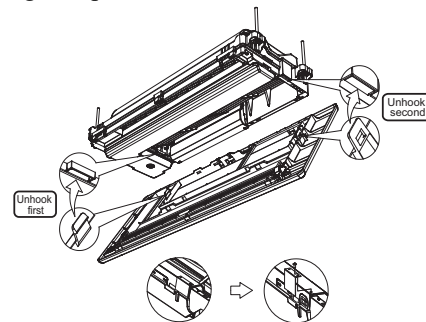

Fig. 14 —Removing the Panel
4. See Fig. 14 for “Removing Panel from Unit” instructions for 2 clips on the panel assembly.